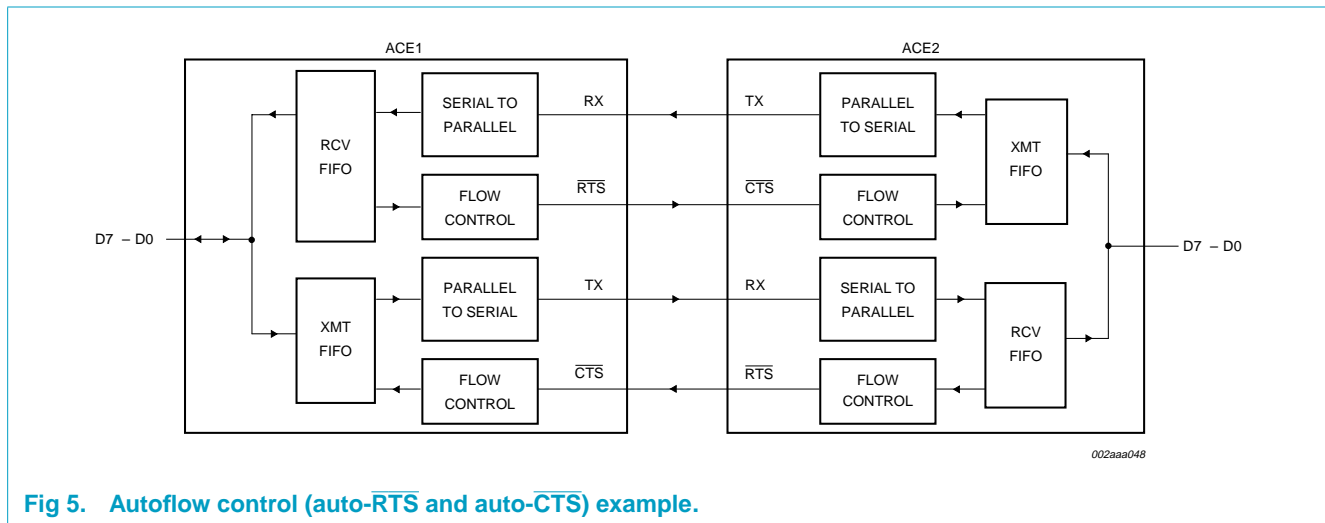

Fig 5. Autoflow control (auto- $\overline{\text{RTS}}$ and auto- $\overline{\text{CTS}}$) example.
6.3 Autoflow control (see Figure 5)
6.3.1 Auto- $\overline{\text{RTS}}$ (see Figure 5)
6.3.2 Auto-CTS (see Figure 5)